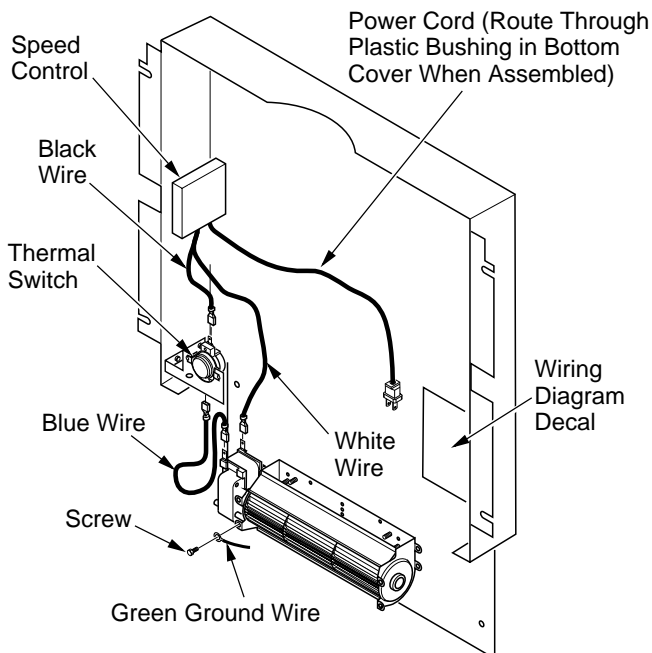

Figure 18 - Blower Wiring Layout (Thermostat Blower Shown)
7. Place the green ground wire between the bottom hole on the blower assembly and the hex screw and tighten (see Figure 18).
8. Connect the blue wire on the blower assembly to one side of the thermal switch (see Figure 18).
9. Connect the black wire to the other side of the thermal switch (see Figure 18).
10. Connect the white wire to the other terminal on the blower motor assembly (see Figure 18). Make sure the thermal switch has been properly installed to fit against back of fireplace insert after the rear cover assembly has been reinstalled.
13. Peel off the backing paper and stick the supplied wiring diagram decal on the inside of rear cover as shown (see Figure 18).